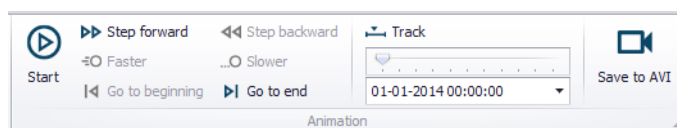

Figure 20.84 Animate dynamic results using tools from the Animation toolbox on the Results ribbon
- Activate the 'Start' function to play the animation. The various options for playing the animation is shown in Figure 20.84.